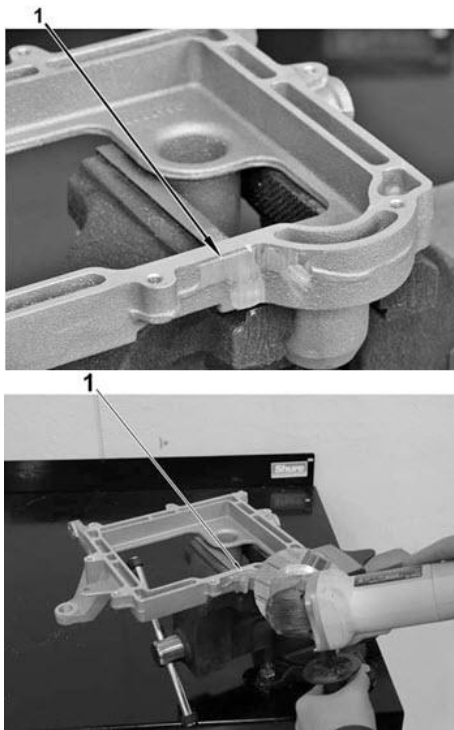

**Figure 12 - Excess material removed**
15. Using grinder or other acceptable method, grind off any remaining stock close to profile of ECM bracket and deburr any sharp edges (Figure 12, Item 1).